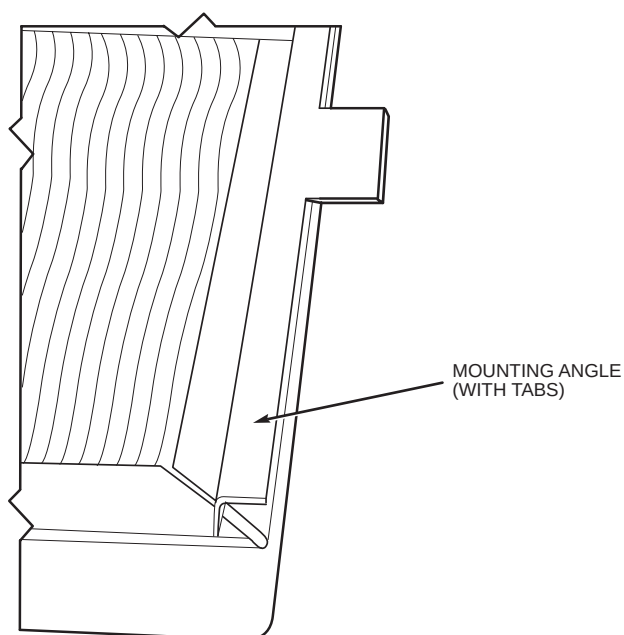

Fig. 24 — Mounting Angle (With Tabs) Attached to Filter Track Assembly
15. Attach remaining mounting angle (with tabs) to other end of the filter track with no. 10 screws provided. See Fig. 24.